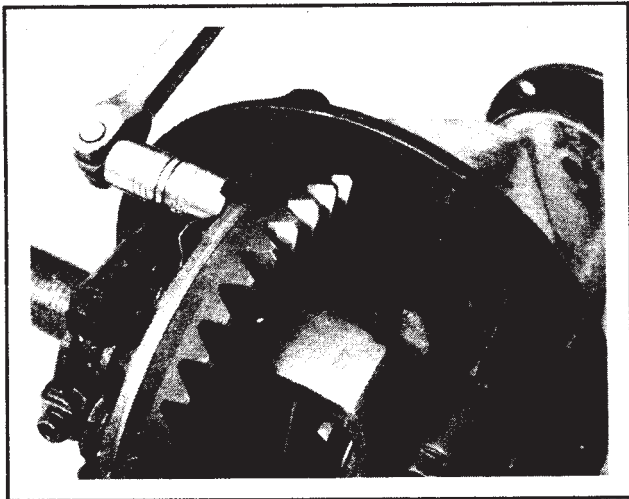

Figure 3
4. If a large vise or air impact wrench is not available, **loosen the ring gear bolts** now if the ring gear will need to be removed to push out the pinion shaft. (See the first step 1 on page 9.) Bend down the retainers, if used, and place a socket on one of the bolts. Allow the ring gear to rotate until the socket is stopped by the carrier, and crack the bolts loose (Figure 3). Do not remove them now. An axle shaft or bar inserted in one of the axle shaft holes can help to hold the assembly.
6. Install the ring gear if it has been removed; orient it in its previously-marked rotational position and torque the bolts. If a vise is not available, they may be torqued down later after the case has been installed in the carrier (the reverse of Figure 3).